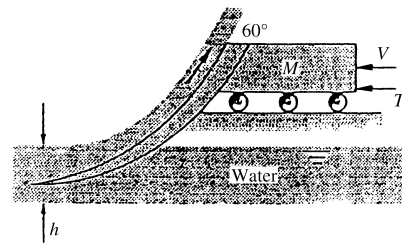

Fig. P3.108
3.108 A rocket sled of mass M is to be decelerated by a scoop, as in Fig. P3.108, which has width b into the paper and dips into the water a depth h , creating an upward jet at 60° . The rocket thrust is T to the left. Let the initial velocity be V_0 , and neglect air drag and wheel friction. Find an expression for $V(t)$ of the sled for (a) $T = 0$ and (b) finite $T \neq 0$.